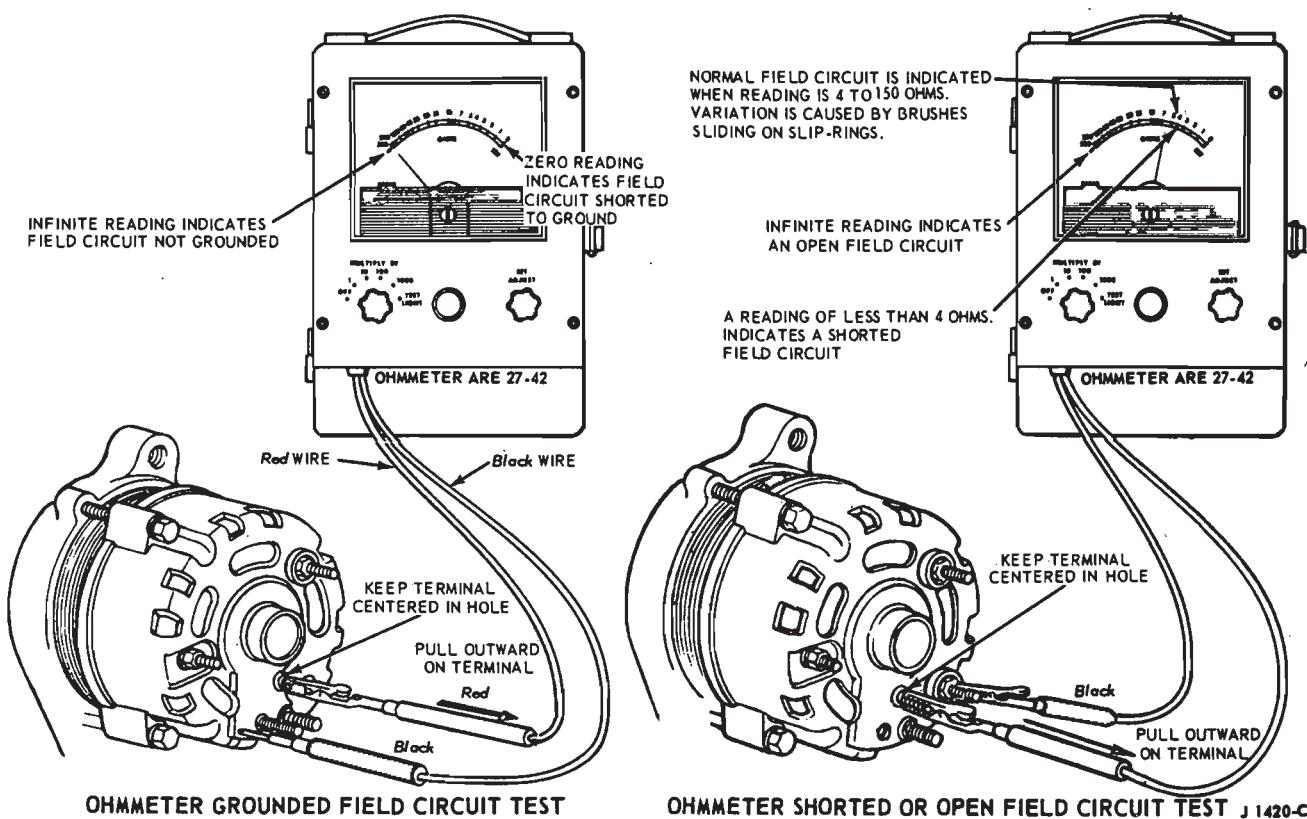

FIG. 12—Ohmmeter Field Circuit Tests—With Integral Regulator
3. Connect the ARE 27-42 ohmmeter leads as shown in Fig. 12, Ohmmeter Field Circuit Tests. Set the ohmmeter multiply-by knob at 1, and calibrate the ohmmeter as indicated inside the ohmmeter cover.
4. Three conditions are checked in these tests as shown in Fig. 12: A grounded field, a shorted field and an open field.